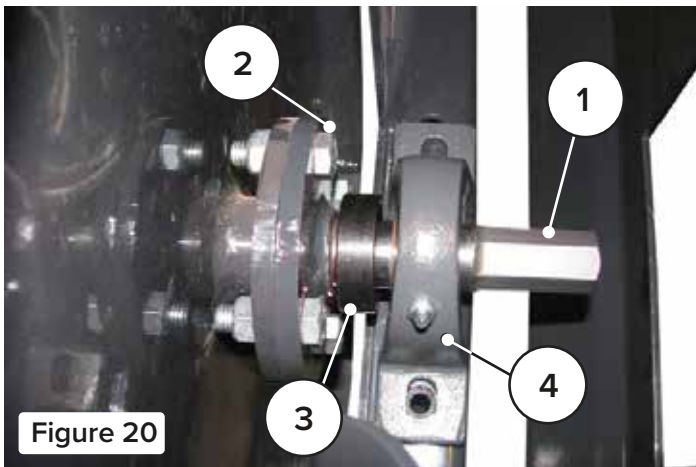

Figure 20
13. Install the new adapter shaft (Item 1) in the spool and install and tighten the four mounting bolts (Item 2) and nuts. [Figure 20]
14. Place the offset locking collar (Item 3) and bearing (Item 4) onto the adapter shaft. [Figure 20]